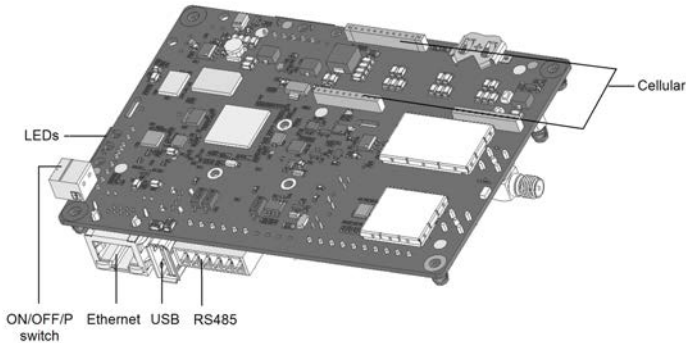

Figure 25: Communication board connectors
- e. Connect the Ethernet connector to the RJ45 port on the communication board (see Figure 25).